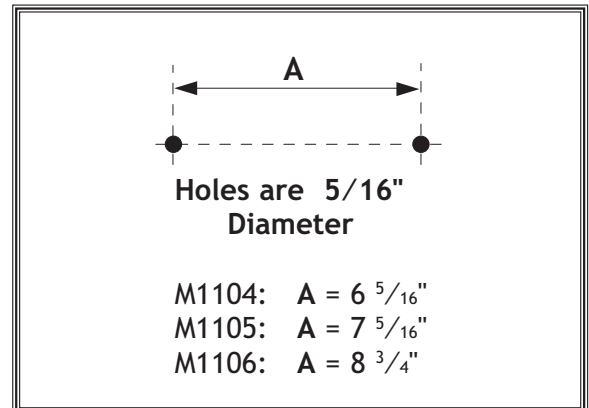

Figure 5. Bench grinder mounting bolt pattern.
2. Fasten the grinder to your supporting surface, using the dimensions in **Figure 5**. DO NOT overtighten the mounting bolts or you will crack the base.